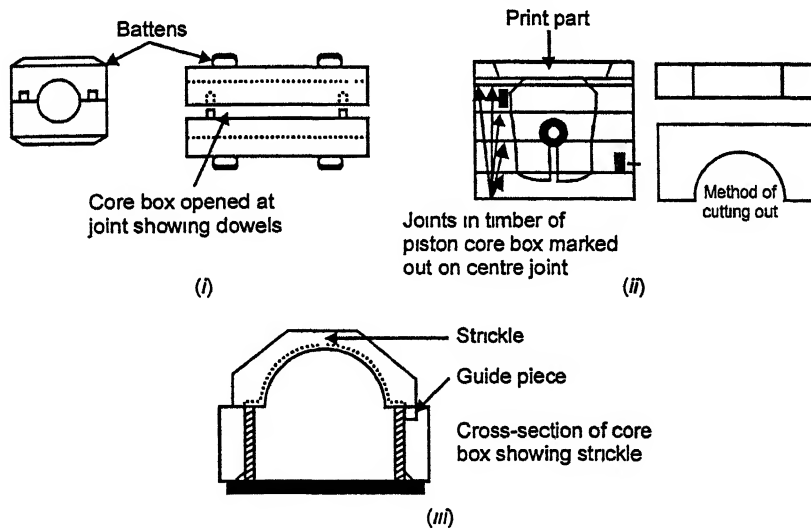

Fig. 8.18. Core boxes : (i) Simple box for cylindrical core, (ii) Piston core box, arranged for straight cuts ; (iii) Strickle used to shape large cores.
- If a plain hole is required in a casting, the core is a cylindrical piece of sand, the length of the hole plus the print portion ; this core can be made in a **simple core box** cut from *two pieces of wood held together with dowels on the centre joint.* Fig. 8.18 (i).
- Another method of building up core boxes is to make the joints in such positions as will enable straight cuts to be made, *e.g.*, **piston core box**, Fig. 8.18 (ii). Each piece of the box is made to thickness of the sections at which the diameter of the piston alters, and screwed together. After making out of the joint on the box, the pieces are taken apart and cut through, glued and screwed back in position.
- **Stickles** are frequently used with core boxes to obtain shapes of large works. They work from a guide held against a parallel side of the core box. Fig. 8.18 (iii). A considerable amount of time in building up and shaping is saved by their use.